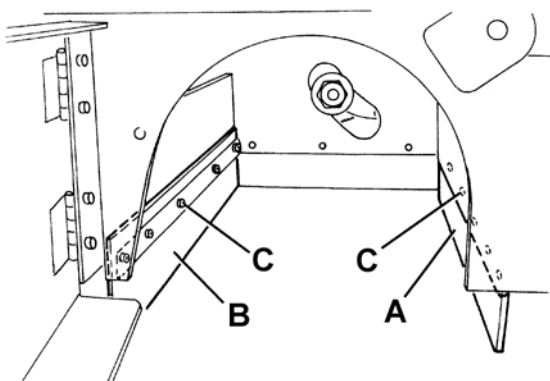
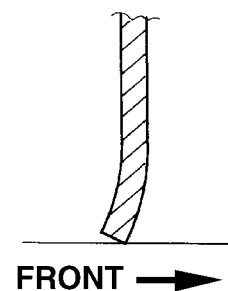

Figure 22
Figure 24
9. Check the front (A, Fig. 22) and rear skirts (B) for integrity.
10. Check that the front (A, Fig. 22) and rear skirts (B) slightly rub on the floor (see Fig. 24).
If necessary, loosen the screws (C, Fig. 22) and adjust the skirt position. Then tighten the screws (C).
11. Press the front skirt lifting pedal (75) completely, and check that the front skirt lifts 2 in (5 cm) approximately.